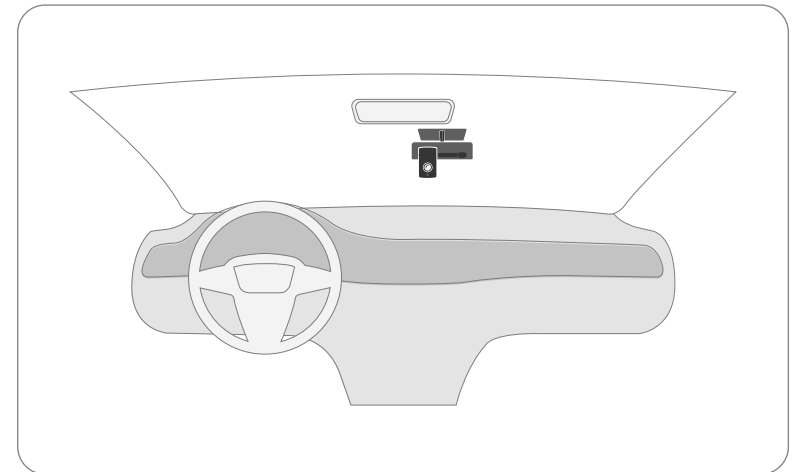

Fig. 2 Offset mount
- If the center of the windshield is an obstruction to the driver's line of vision, the FleetCam can be offset towards the passenger side of the windshield (see figure 2 for reference). **Maximum offset measurement allowed is 4 inches (10.16 cm).**